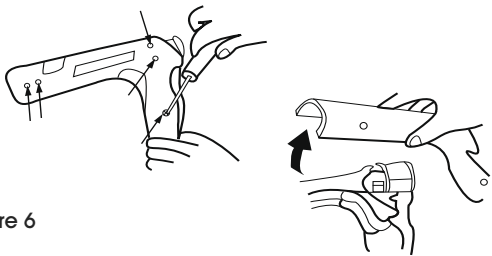

Figure 6
1. Remove five mounting screws and remove right side of housing. (See Figure 6)